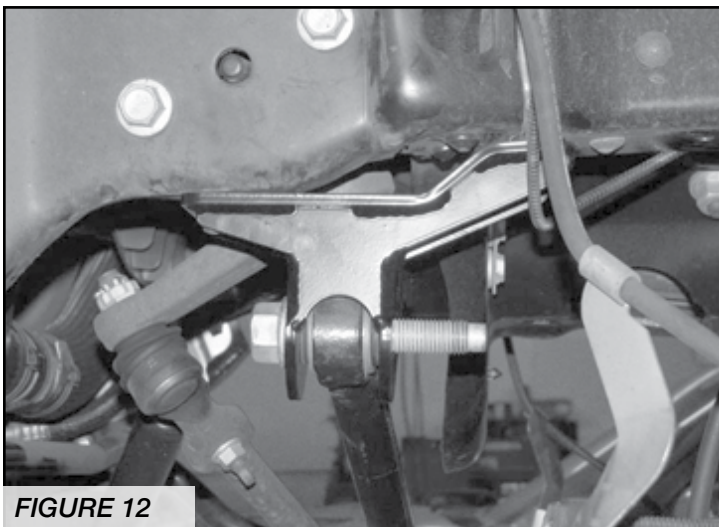

FIGURE 12
12. Position the factory trac bar into the new trac bar bracket. Note: You may need to raise the axle up or down to align the hole. Using the original bolt, insert it from the front side of the bracket towards the back. Torque the trac bar bolt to 400 ft-lbs. **SEE FIGURE 12**